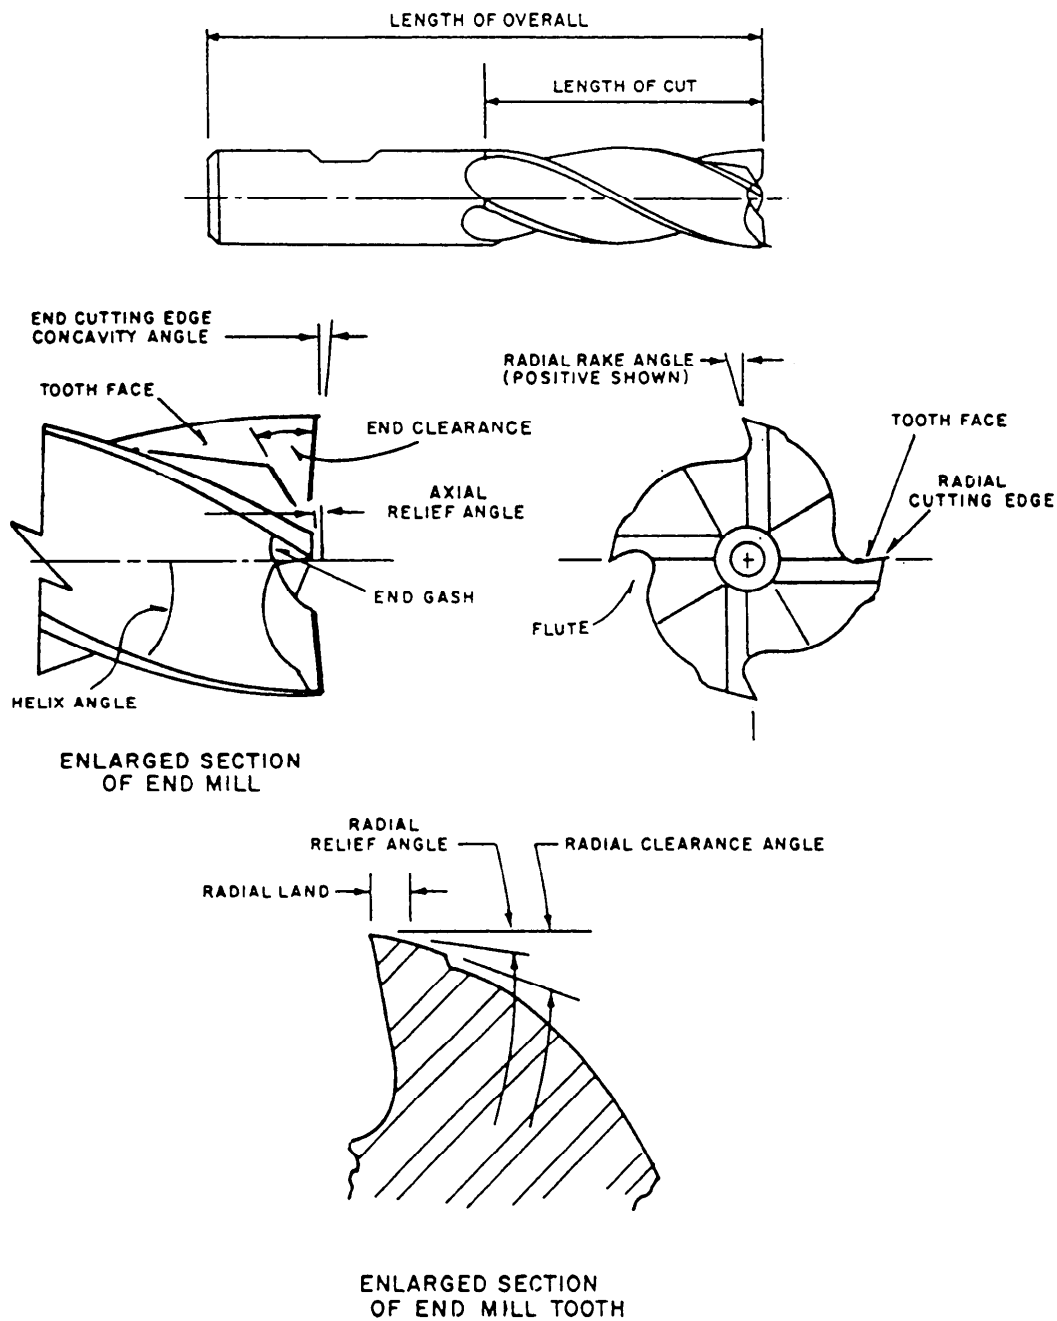

Figure 7-35.—End mill terms.
**END MILL CUTTERS.**—End mill cutters may be the **SOLID TYPE** with the teeth and the shank as an integral part (fig. 7-33), or they may be the **SHELL TYPE** (fig. 7-34) in which the cutter body and the shank or arbor are separate. End mill cutters have teeth on the circumference and on the end. Those on the circumference may be either straight or helical (fig. 7-35).